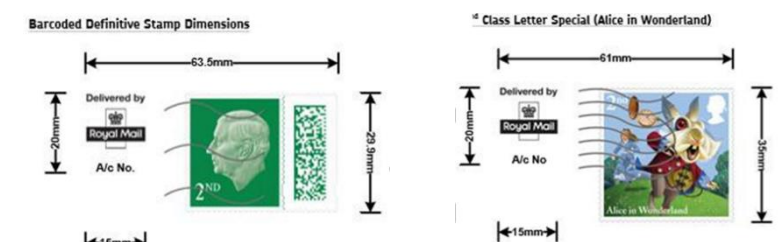

Figure 31: Access License Number positioning and dimension requirements for Digital Stamp Indicators
- You must ensure that the correct Access Licence Number (C9 number) relevant to the Access Contract you use for the Posting is added to the artwork in the position detailed in Figure 31 and Figure 32 below.
- Artwork must meet the exact dimensions of the Digital Stamp artwork (see Figure 31 below).